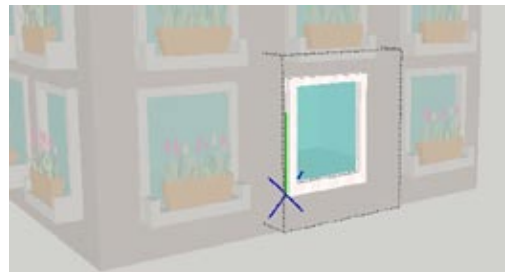

Figure 7-72
3. This component is now different from the other nine windows. Open it for editing and erase the flower box. (The flower box is itself a component, so it can be erased with one click.) Also, push in the windowsill so that the frame is a simple offset (Figure 7-72).